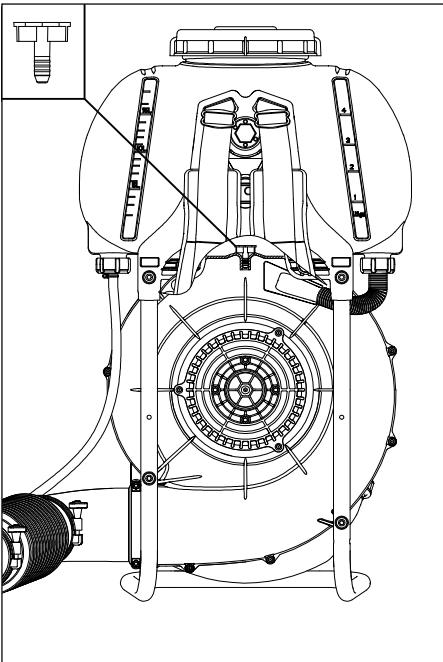

Figure 3 Remove grid
- Unscrew the red liquids tank cap; remove the white plastic cap form the bottom of the tank, at the center, as shown in the box at the top left of Figure 3.